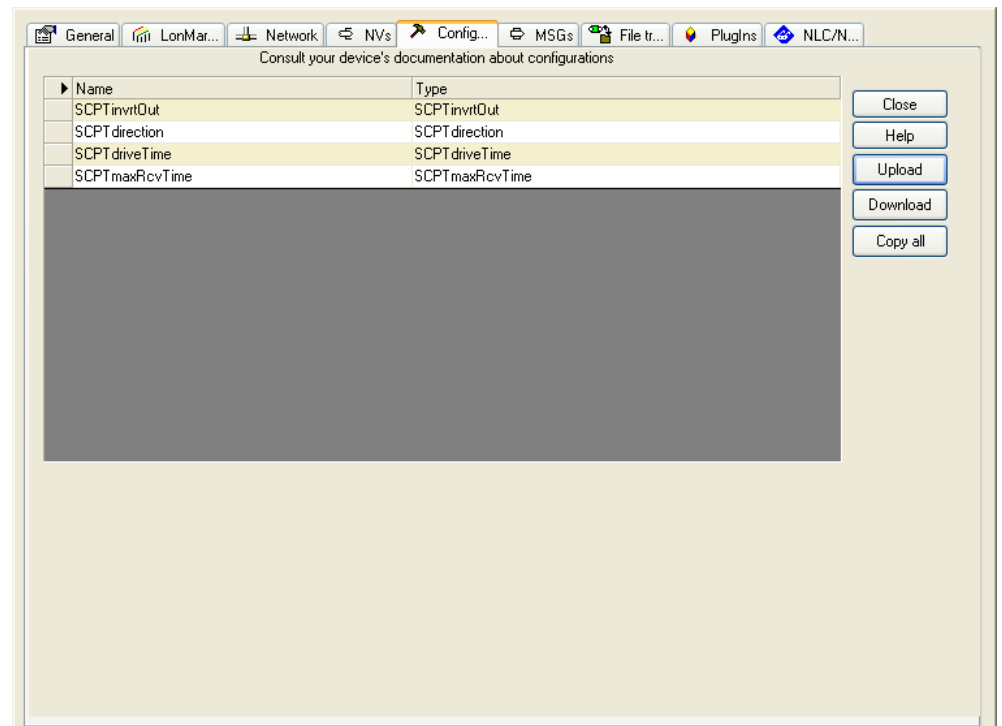

Figure 154: Configuration Tab for Configuration Properties in NL220.
2. Press the **Upload** button on the Configuration tab of the device properties (see Figure 154).